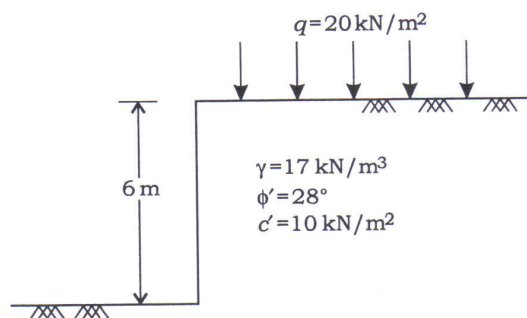

Fig. 7(b)
- (b) A retaining wall is shown in Fig. 7(b) below. Determine (i) the active force after the tensile crack occurs and (ii) the passive force per unit length of the wall :